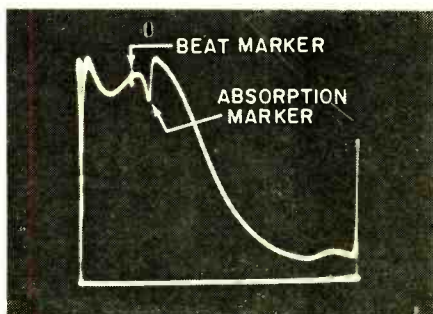

Fig. 1—Absorption and beat marker on video-frequency response curve.
**A**BSORPTION markers are extensively used in color TV service. An absorption marker output, compared with that of a beat marker, is shown in Fig. 1. An absorption marker produces a dip in the response curve, instead of a "bug."